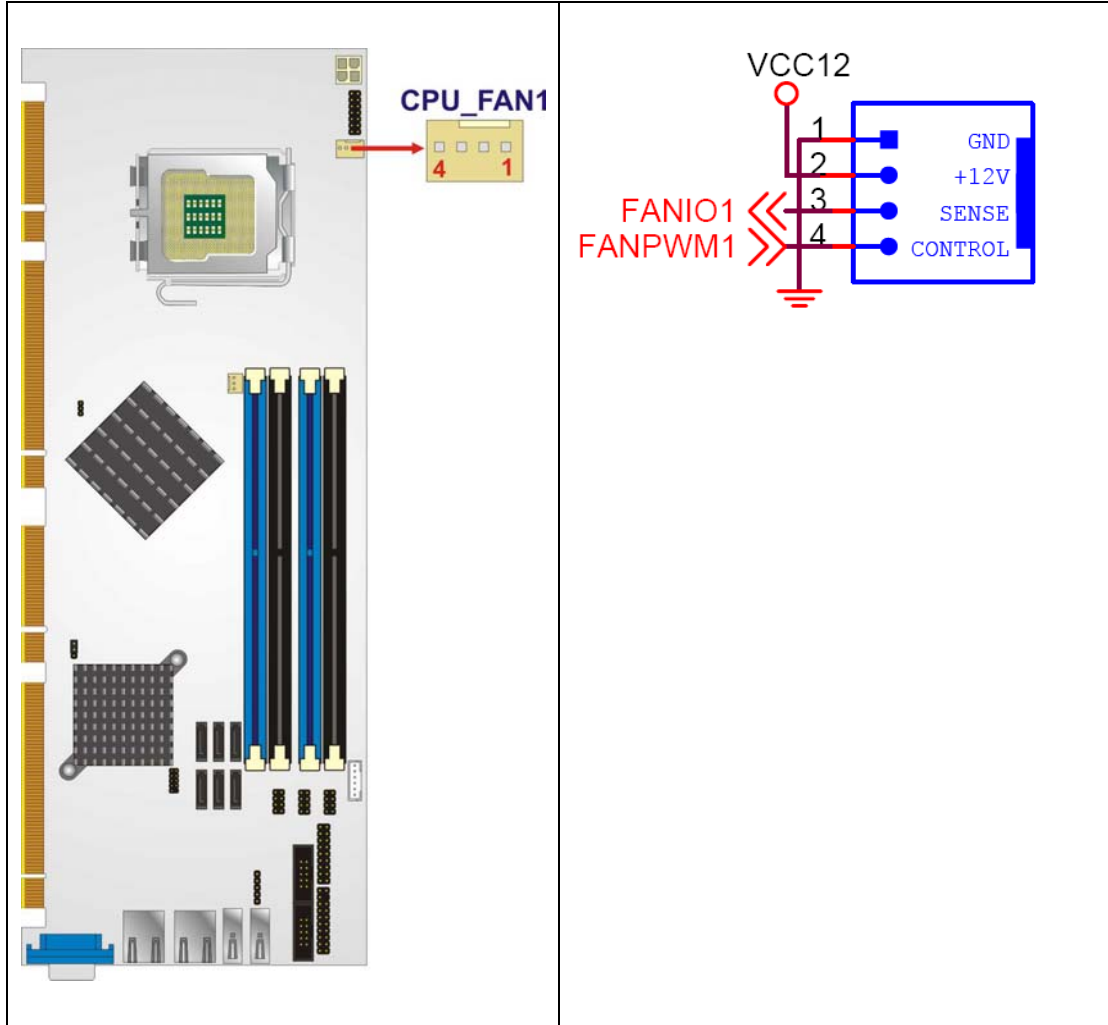

Figure 4-5: +12V Fan Connector Location
- CN Location:** See Figure 4-5